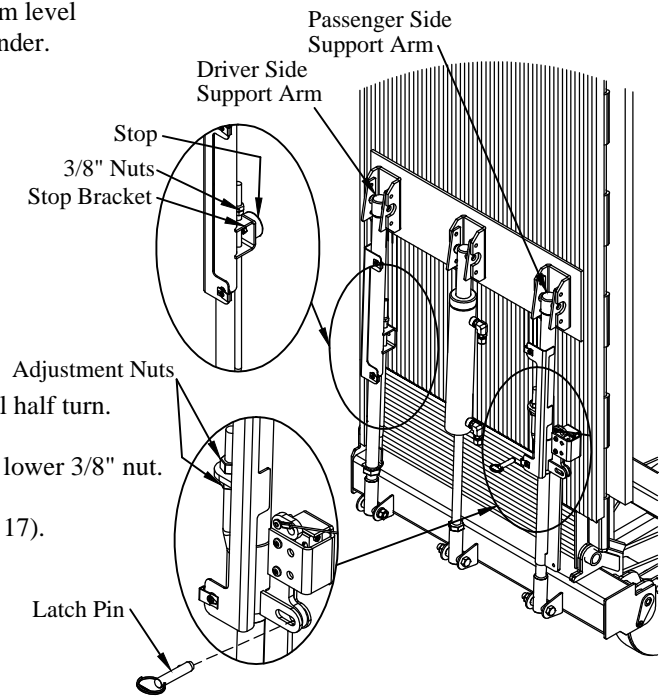

Figure 17: Platform adjustments.
- 2. Loosen** the 3/8" nuts on the driver side support arm (Figure 17) so they do not contact the stop when the platform is folded.
- Tighten** the lower 3/8" nut on the driver side support arm until it contacts the stop bracket (Figure 17).
- Loosen** the adjustment nuts on the passenger side support arm (Figure 17).